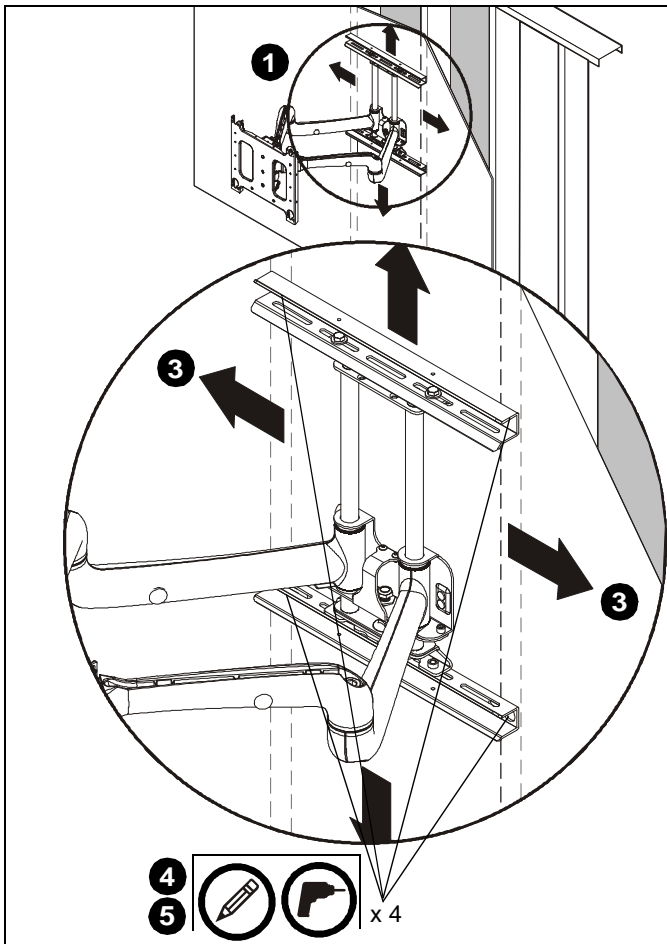

Figure 1
2. Using a stud sensor locate two wood studs 16" apart on center. (See Figure 1)
3. Place and level mount against wall, aligning mounting holes in upper and lower wall channels with studs. (See Figure 1)
4. Mark four mounting holes making sure mounting holes are located as close as possible to center of studs. (See Figure 1)
5. Drill four 7/32" pilot holes where the mounting holes were marked. (See Figure 1)